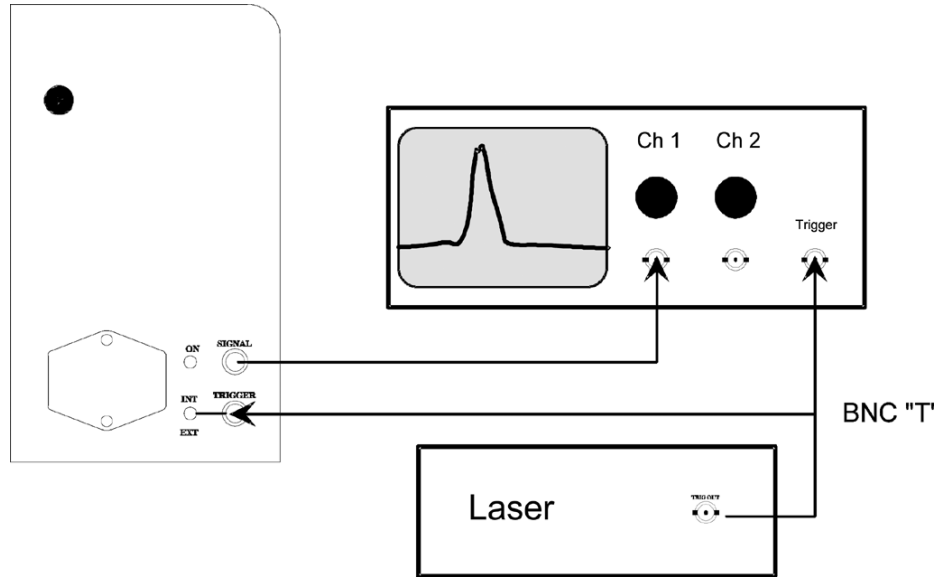

Figure 3-14. SSA Triggering in “Ext”
3. Connect the oscilloscope to the SSA as shown in Figure 3-14. The SSA samples at a rate of about 100 Hz; that is, the CCD is read out to the oscilloscope at 100 Hz. If the laser repetition rate is less than 100 Hz, use the SSA in EXTERNAL TRIGGER mode and supply an external trigger to the SSA.